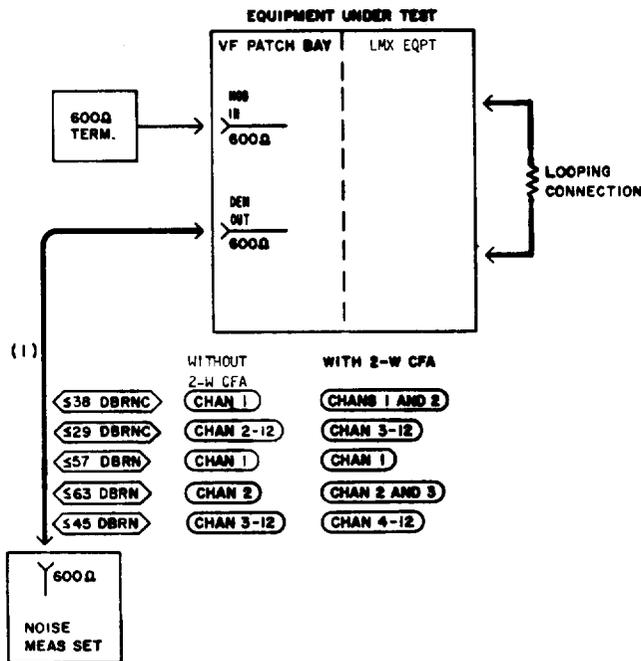

Fig. 9—Patching Diagram—Noise Test
11	Insert a 262B plug (600-ohm termination) in the MOD IN jack for Channel 1 of the channel bank under test (Fig. 9).
12	Connect the NMS to the DEM OUT jack for the channel under test [patch (1), Fig. 9].
22	Remove patch (1), Fig. 9.